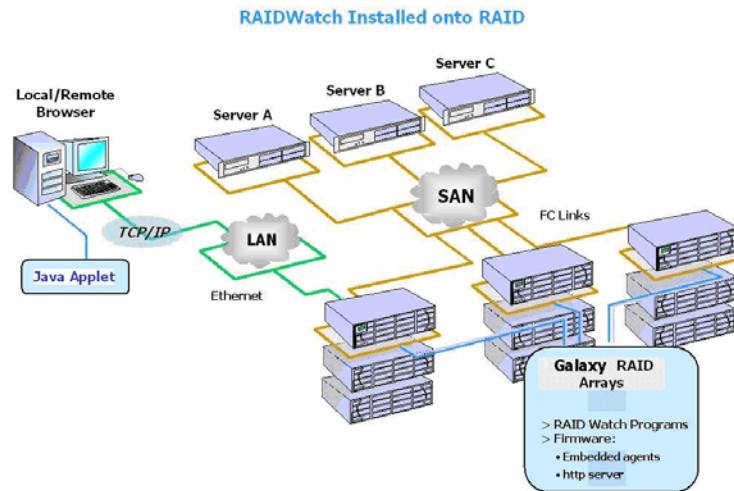

Figure 1-6: Typical RAIDWatch Connection – Applet Mode
3. **Stand-alone/Out-of-Band (on Host) Installation:** This installation provides management access with no centralized management utility. Event notification is provided through an independent NPC utility. RAIDWatch accesses RAID subsystems over the network through the command exchanges between a manager station and RAIDWatch programs that exist in array hard drives, (See *Figure 1-6.*) The management session and the NPC configuration screen are invoked as a Java Applet.